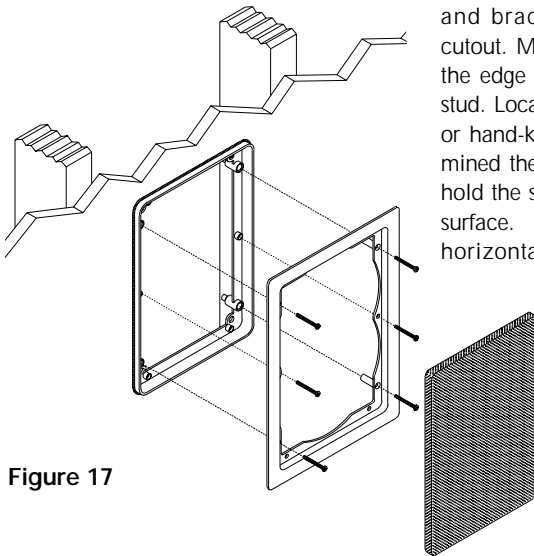

Figure 17
8. Attach the frame to the bracket by screwing the frame to the bracket using the supplied screws. Do not overtighten the screws, this will distort the frame and the grilles will not fit (this is not permanent, just loosen the screws and the grille will pop in). The screws should pull the frame and bracket together (sandwiching the drywall) so that the frame is absolutely flush with the wall surface. There should be no gaps between the wall and the frame **(See Figure 17)**.